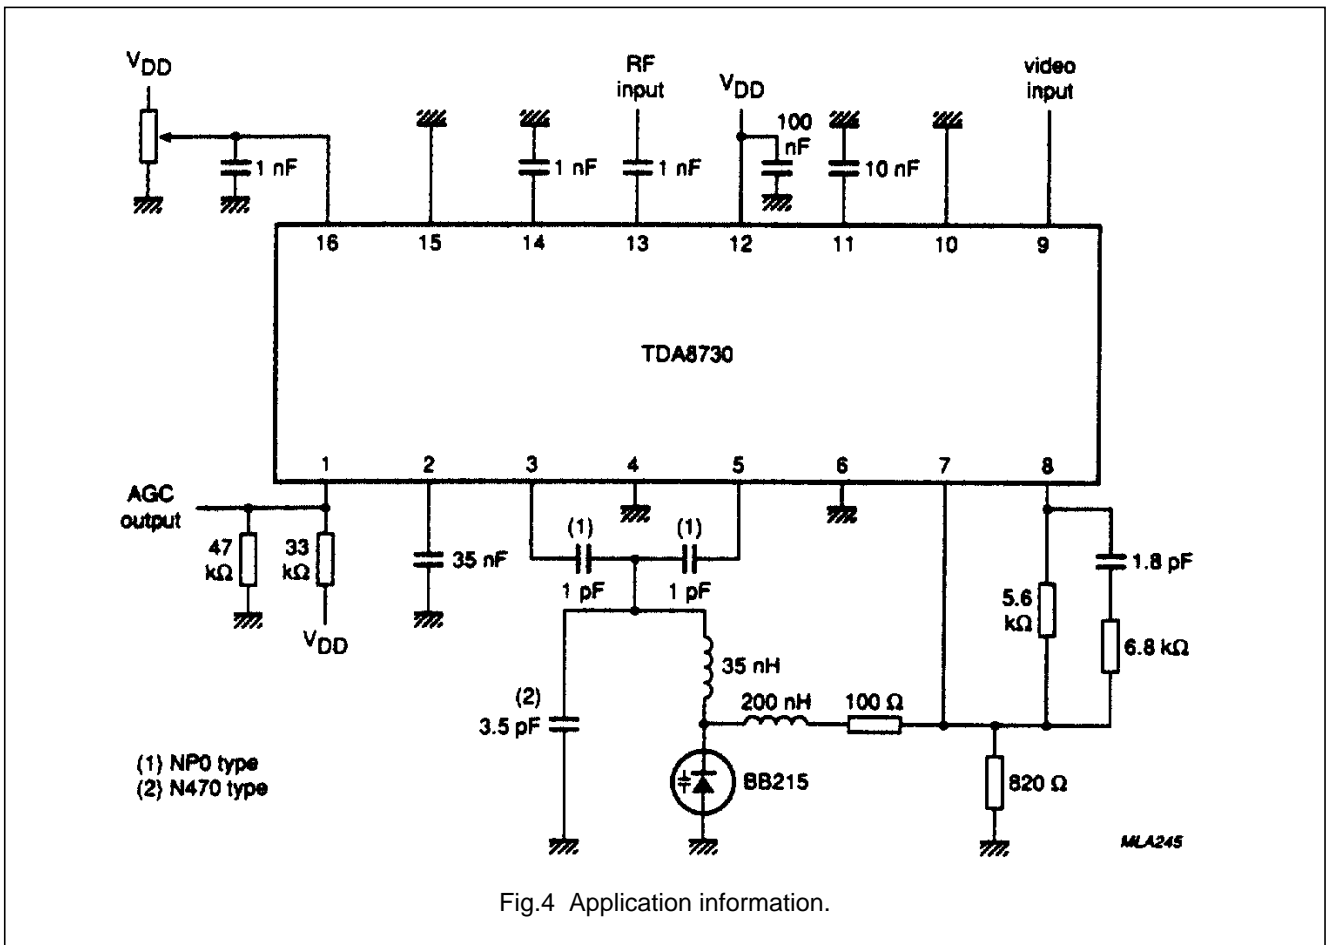

Fig.4 Application information.
CHARACTERISTICS $V_{DD} = 9\text{ V}$; $T_{amb} = 25\text{ °C}$; $f = 480\text{ MHz}$; Input level $70\text{ dB}\mu\text{V}$; measured in circuit of Fig.4 unless otherwise specified.
The current consumption of this application is given by the addition of the supply current of the circuit plus the current consumption of external components in the application given. In this event (Fig.4) the typical current is 80 mA.
- The circuit of Fig.4 is designed for an input level of 70 dB μ V.
However, for levels other than 70 dB μ V the optimum loop filter values will be different from those given in Fig.4.
- In the application circuit of Fig.4 the RF input is asymmetrically driven.